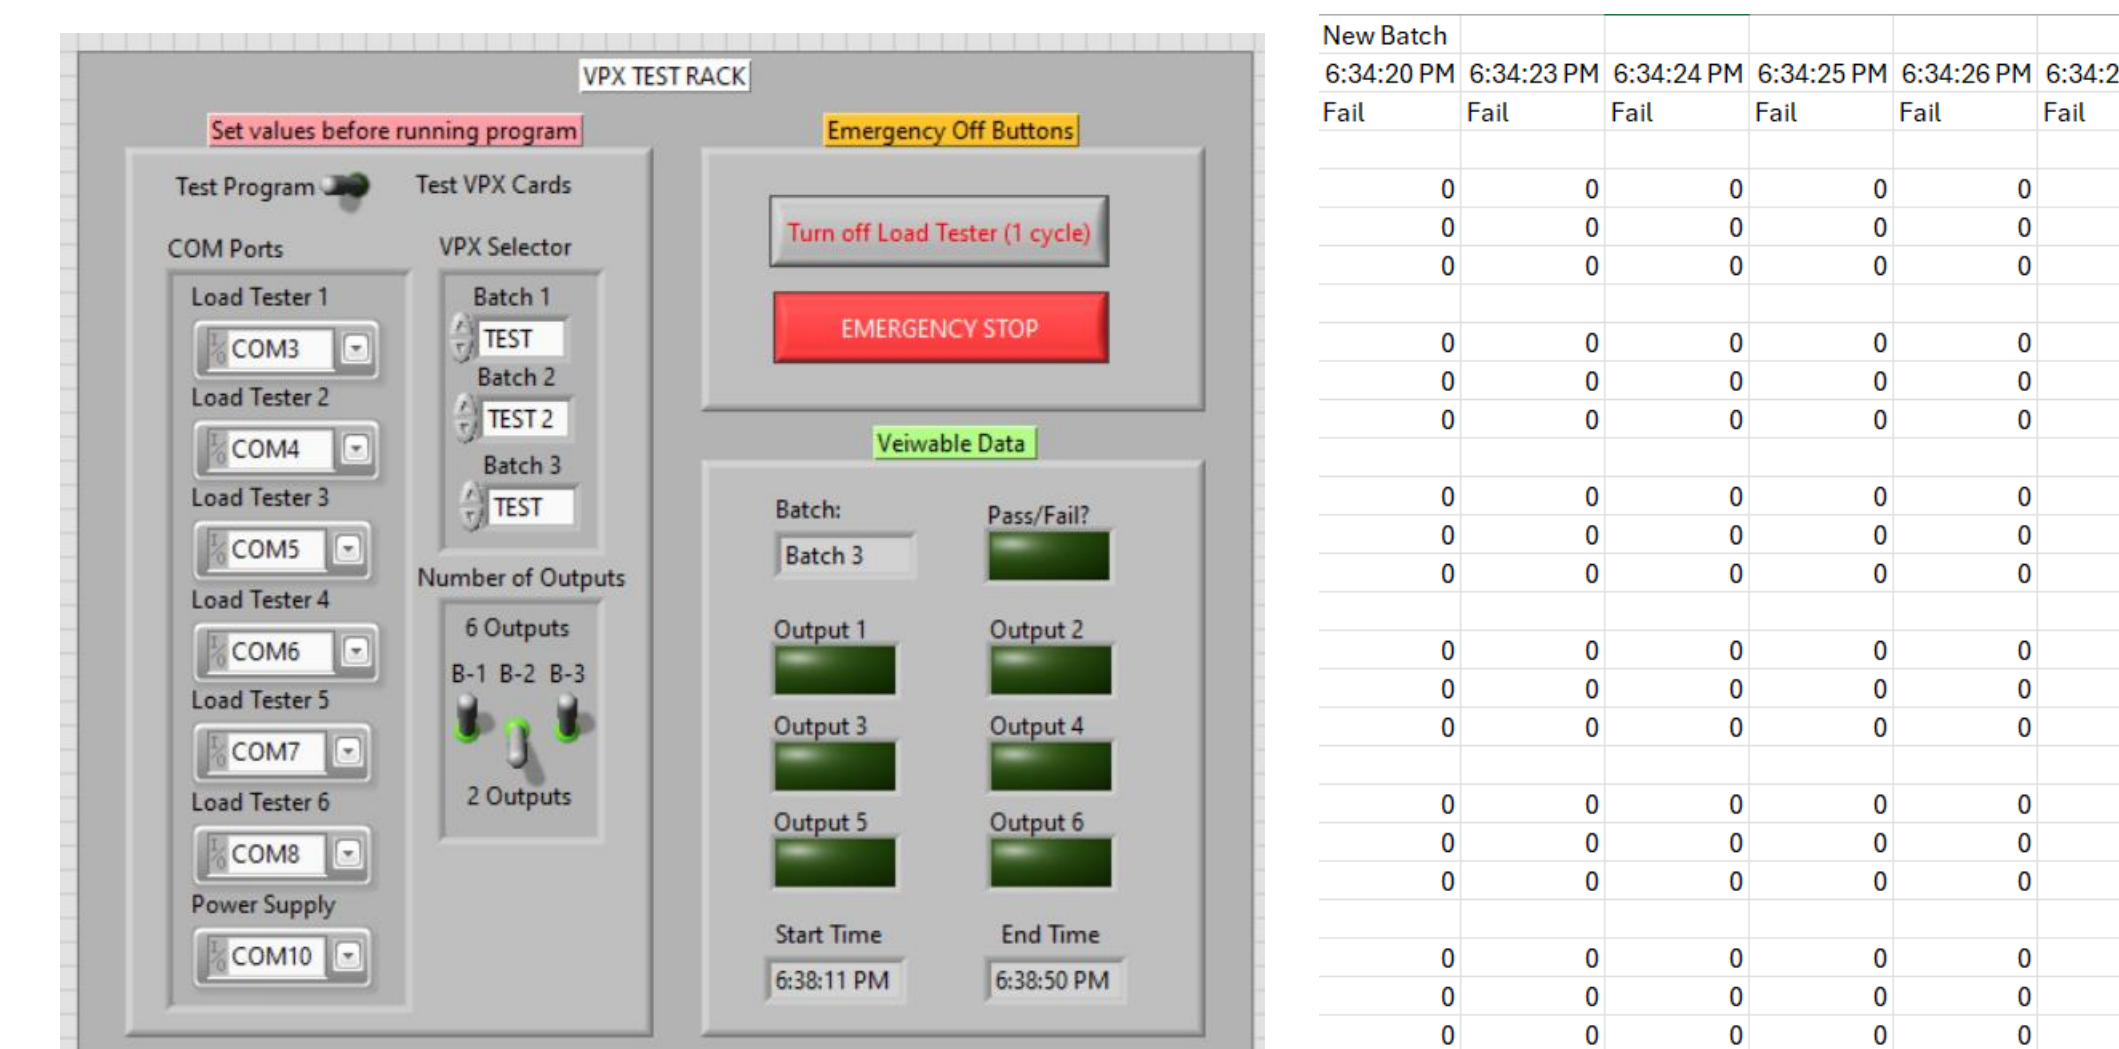

Figure 5. User Interface of LabVIEW
- The program written in LabVIEW can control the load testers and the power supply based on user input (Figure 5), and the relays based on time.